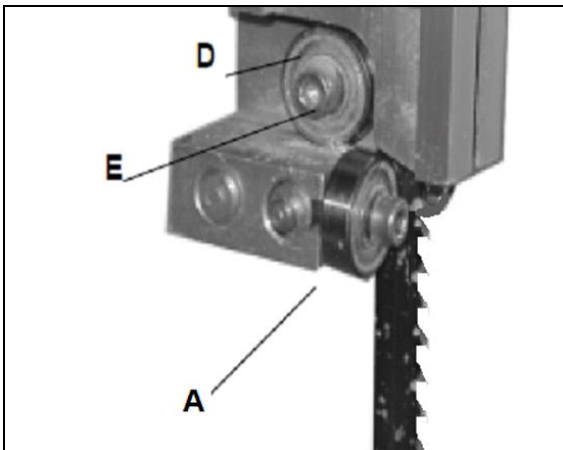

Fig 26
Loosen the hex socket bolt (E, Fig 26) and lock the back guide roller (D) so that the distance to the saw blade is 1mm